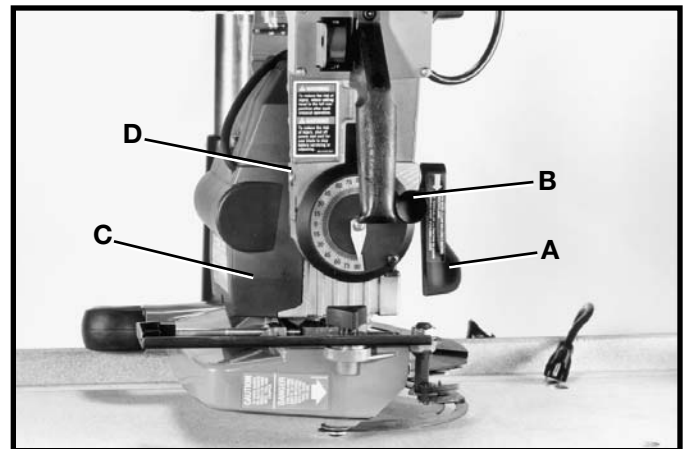

Fig. 69
2. Loosen bevel clamp handle (A), release bevel index release knob (B), and turn motor (C) to vertical position as shown in Fig. 69. **NOTE: IF BLADE GUARD CONTACTS TABLE SURFACE, RAISE TRACK ARM.**
3. Loosen bevel clamp handle (A) Fig. 69, several turns, until hex head of screw (D) can be pushed out of hex-shaped recess in yoke.
4. Turn screw (D) Fig. 69, in the desired direction which the handle needs to be turned, one or two flats of the hex head and push it back into hex-shaped recess in yoke.
5. Tighten bevel clamp handle (A) Fig. 69. **NOTE:** Screw is left hand thread - turn clamp handle counterclockwise to tighten.